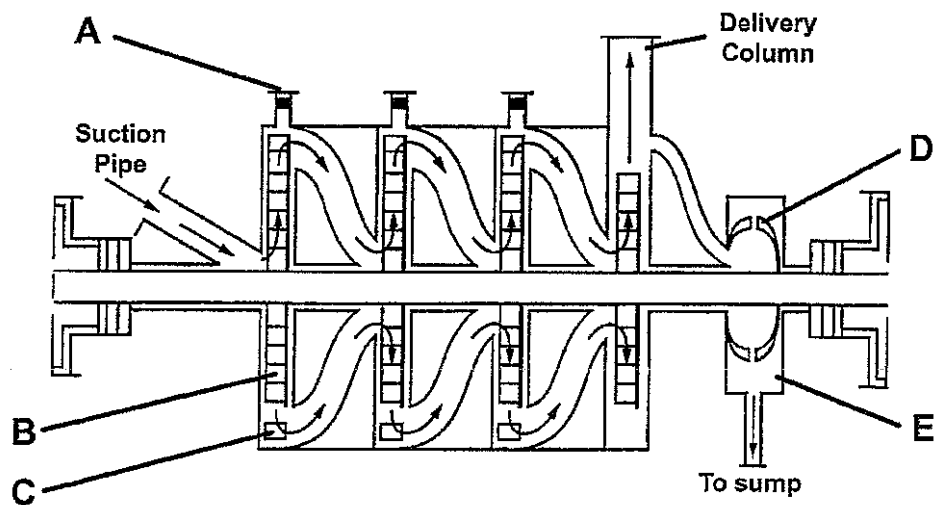

FIGURE 4
- 4.4 Refer to FIGURE 4 below and answer the questions that follow.